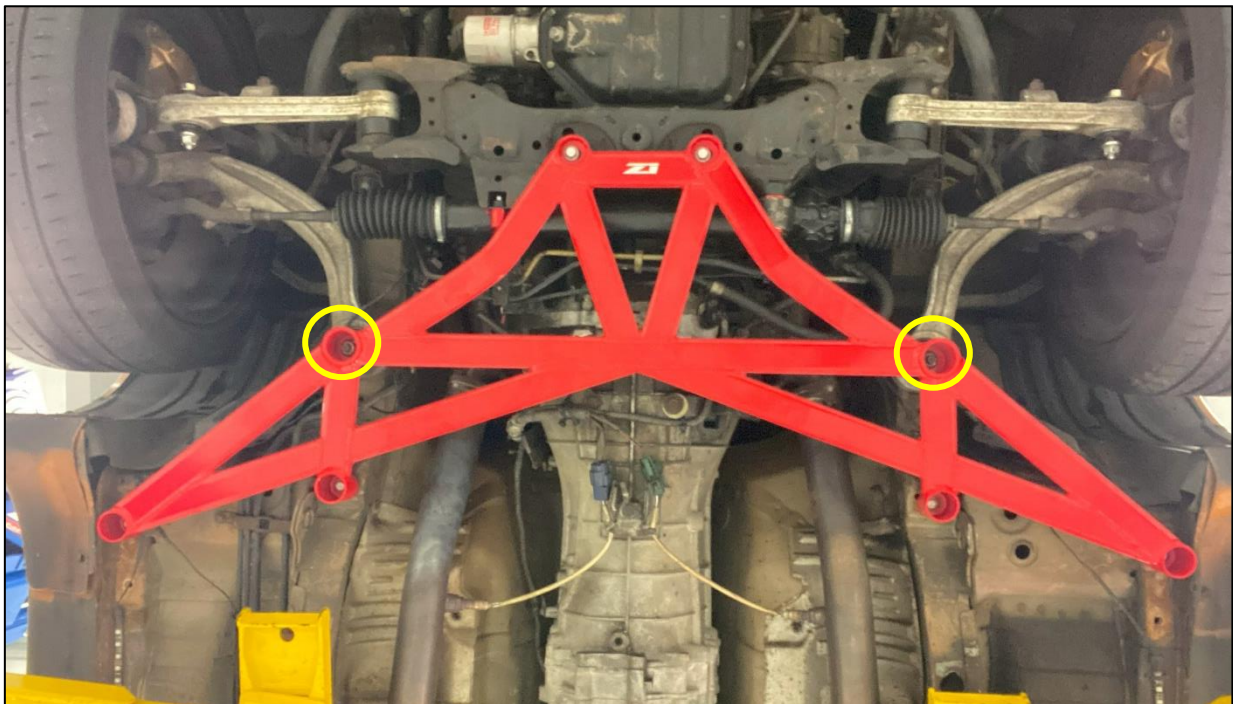

Figure 8
7. Reinstall the (2) two nuts removed from the Compression Arm mount in Step 3. Torque to **104-125 ft-lbs.** Figure 8.